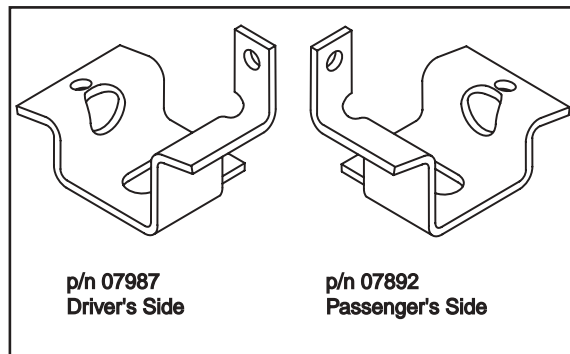

Figure 3
2. The kit mounts behind the axle. Use upper bracket (B) #07987 on the left (driver's side) and upper bracket (C) #07892 on the right (passenger's side) (Figure 3).